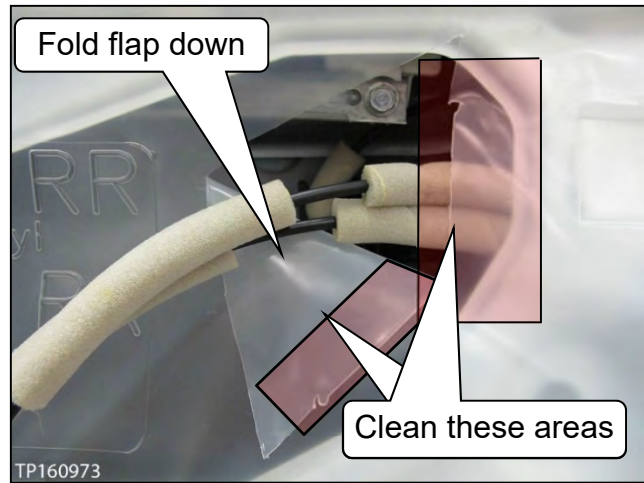

Figure 14
4. Fold the flap down (see Figure 14).
5. Clean the back side of the vapor barrier where shown in Figure 14.